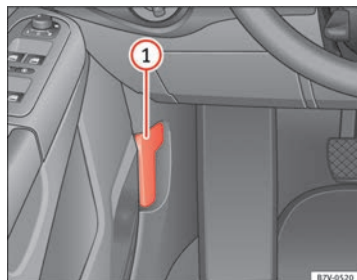

Fig. 168 In the footwell on the driver side: Lever for unlocking the bonnet.
- Before opening the bonnet, make sure that the windscreen wiper arms are in place against the windscreen ⇒ ①.
- Pull the release lever ⇒ fig. 168 in the direction of the arrow. The bonnet is released from the lock carrier by a spring mechanism ⇒ ⚠.